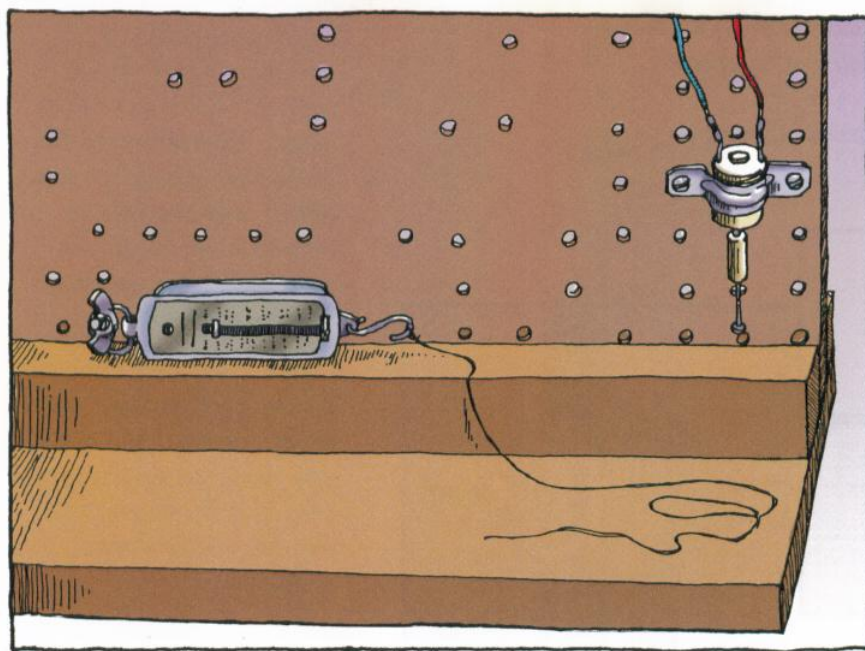

Figure 7.4 Setup for measuring the motor's force
- A.** Set up your pegboard as shown in Figure 7.4.
- C.** Secure the other end of the spring scale with a machine screw and wing nut so it is positioned as shown in Figure 7.4.